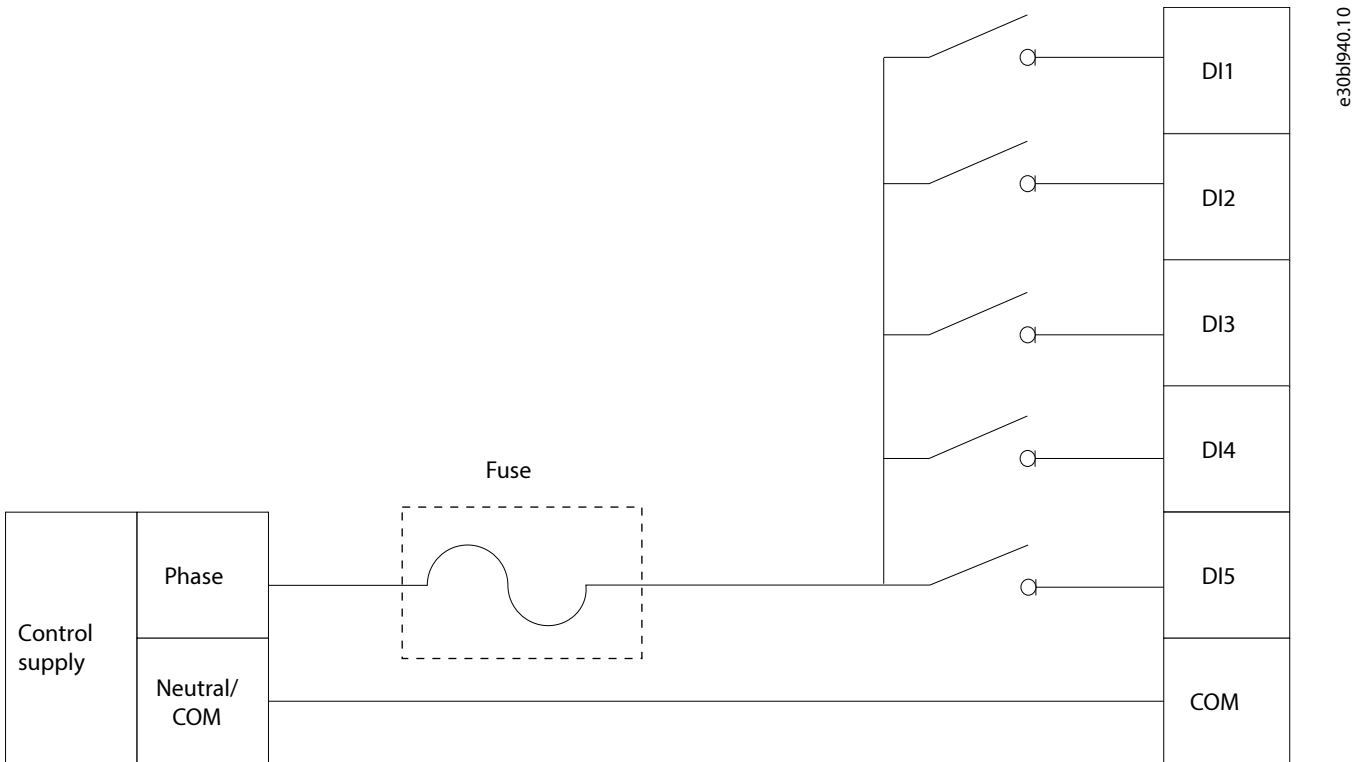

Figure 54: Wiring Configuration for Operation 2000–4400 m (6560–14400 ft) Altitude using 5 Inputs
- All 5 inputs can be used, if the inputs are connected to 230 V or floating, and the same phase must be used for all inputs. Inputs must not be connected to alternate or neutral phase. See Figure 54.